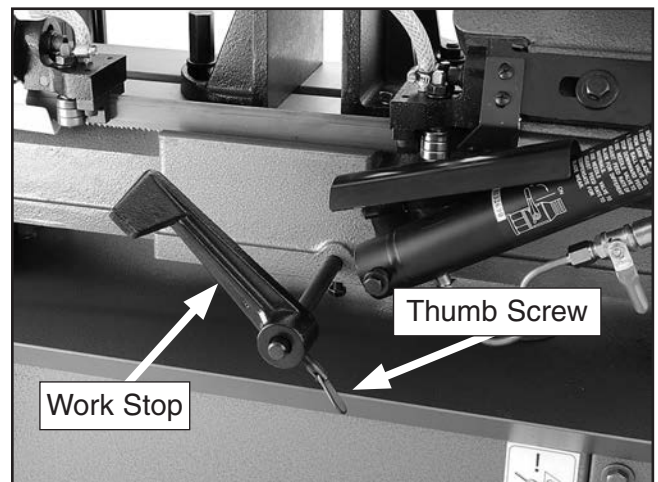

Figure 7. Work stop installed.
2. Thread the thumb screw into the work stop and slide the work stop over the rod as shown in **Figure 7**.